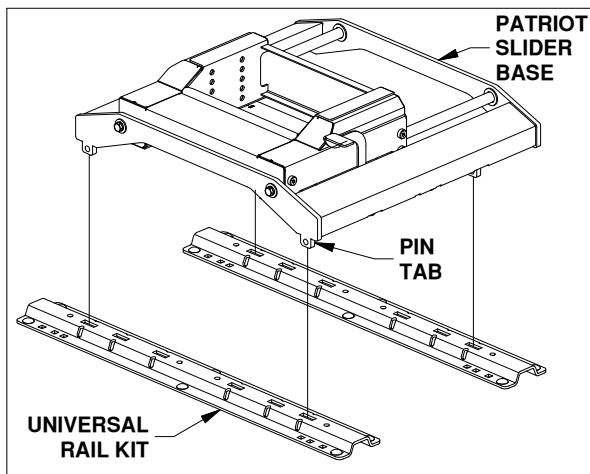

Figure B1: Rail attachment.
1. **Place base.** The Patriot Slider base will mount to a rail kit in the truck bed. Remove any debris and/or obstructions from the bed. Position the Patriot Slider base over the rail attachment points. Carefully lower it until the pin tabs pass through the attachment points and the base rests flat against the top of the rails, see Figure B1.